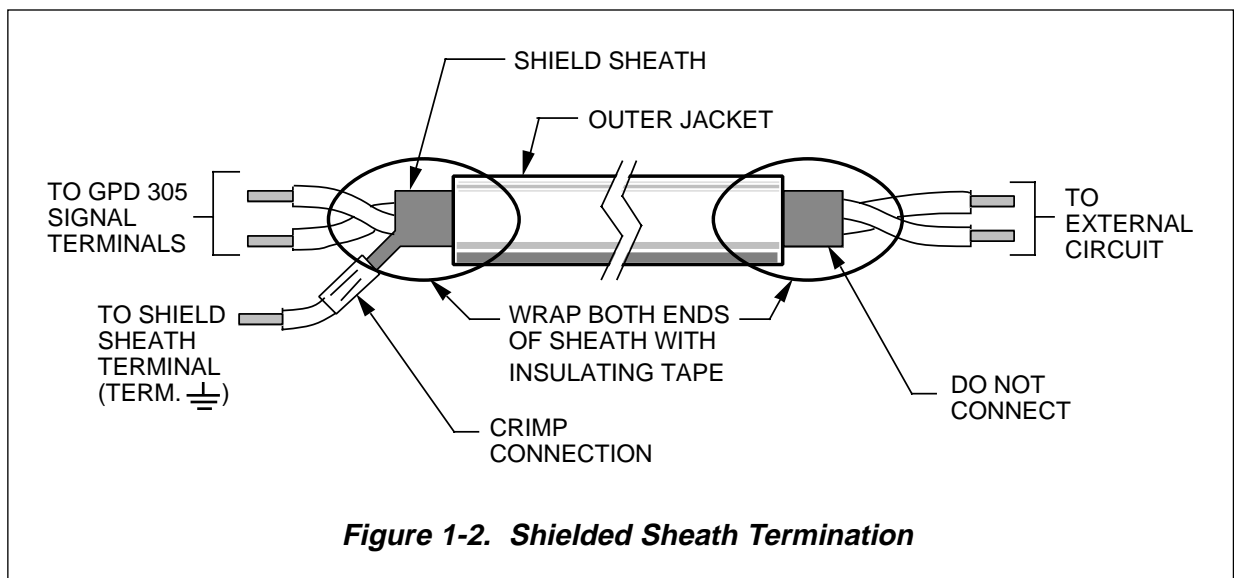

Figure 1-2. Shielded Sheath Termination
- Power Leads : Input Terminals L1 (R), L2 (S), and L3 (T), and Output Terminals T1 (U), T2 (V), and T3 (W).
- Use twisted shielded or twisted-pair shielded wire (20-16 AWG (0.5-1.25mm²)) for control and signal circuit leads. Use twisted shielded or twisted-pair shielded wire (20-14 AWG (0.5-2mm²)) for shield sheath terminal (terminal \oplus). When using shielded wire, the shield sheath MUST be connected at the GPD 305 ONLY (terminal \oplus). The other end should be dressed neatly and left unconnected (floating). See Figure 1-2.
- Signal leads (see above) must be separated from control leads, main circuit leads L1 (R), L2 (S), L3 (T), T1 (U), T2 (V), T3 (W), and any other power cables, to prevent erroneous operation caused by noise interference.